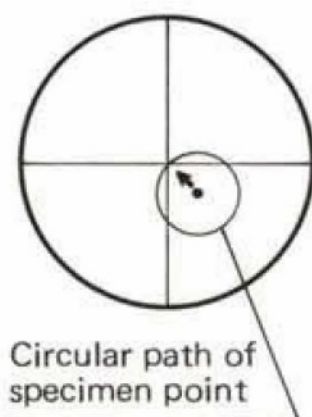

Fig. 5
2) Rotating the stage, coincide the center of the rotation of a specimen point with the center of the cross hairs by means of the two centering screws (1). (Fig. 5)